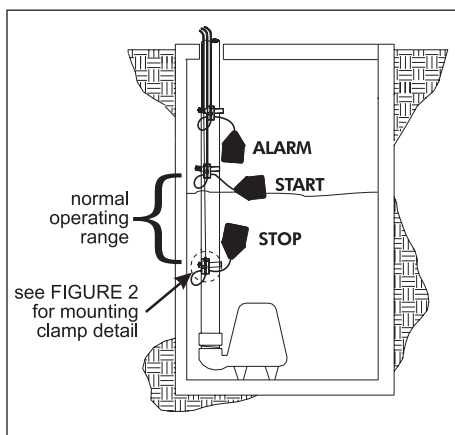

FIGURE 1
2. Determine your normal operating level, as illustrated in **Figures 1 & 2**.